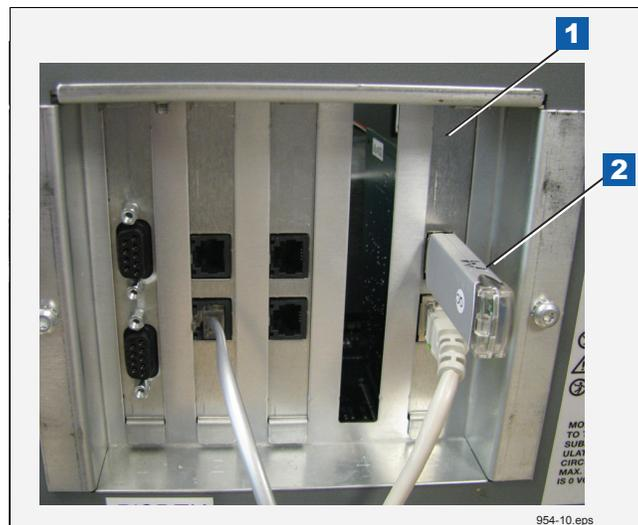

Figure 1. USB/Ethernet board - V-R thumb drive port
- Insert the V-R Backup thumb drive (P/N 330020-604) in the external USB port on the USB/Ethernet card, P/N 332913-001 (see item 2 in Figure 1).
### Legend for numbered boxes in Figure 1